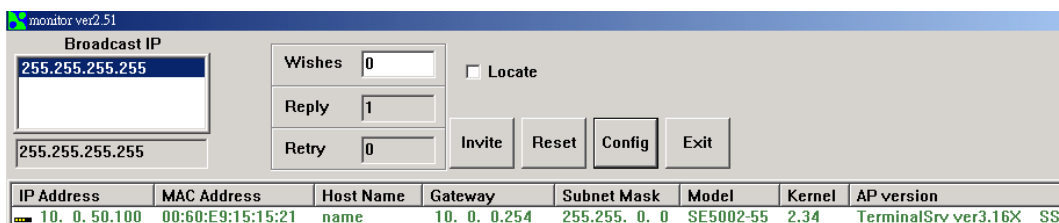
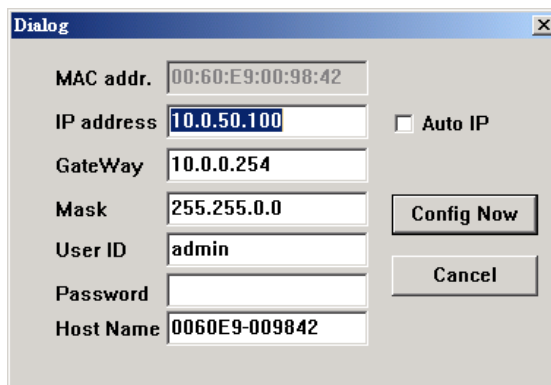

Fig. 6. Configuring the static IP with monitor.exe utility
Fig. 7. Static IP dialog window
Use **monitor.exe** on product CD to configure the SE5002. First click "Config" (Fig. 6) then assign a static IP (Fig. 7).
- ➔ Execute Monitor.exe(Fig. 6)
- ➔ Click "**Config**" to pop-up the static IP Dialog Window (Fig. 7)